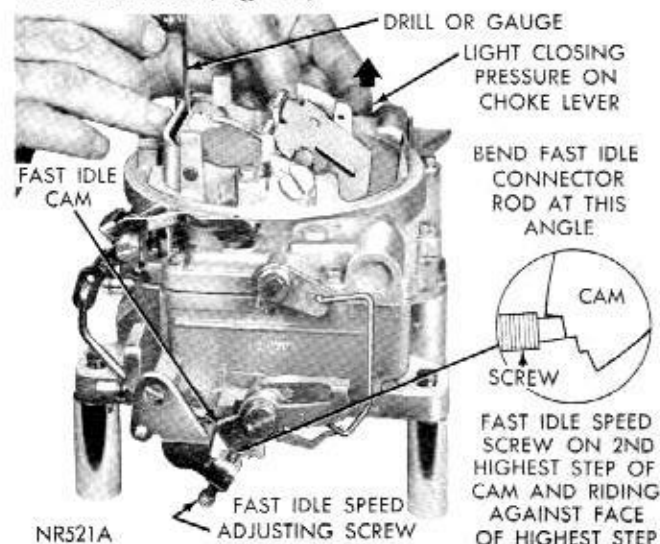

Fig. 12—Fast Idle Cam Position Adjustment
(1) With fast idle speed adjusting screw contacting second highest speed step on fast idle cam, move choke valve toward closed position with light pressure on choke shaft lever.
(2) Insert specified drill (refer to Specifications), between choke valve and wall of airhorn (Fig. 12). An adjustment will be necessary if a slight drag is not obtained as the drill is being removed.
(3) To adjust, bend fast idle connector rod at angle, using Tool T-109-213 until correct valve opening has been obtained. (Fig. 12.)